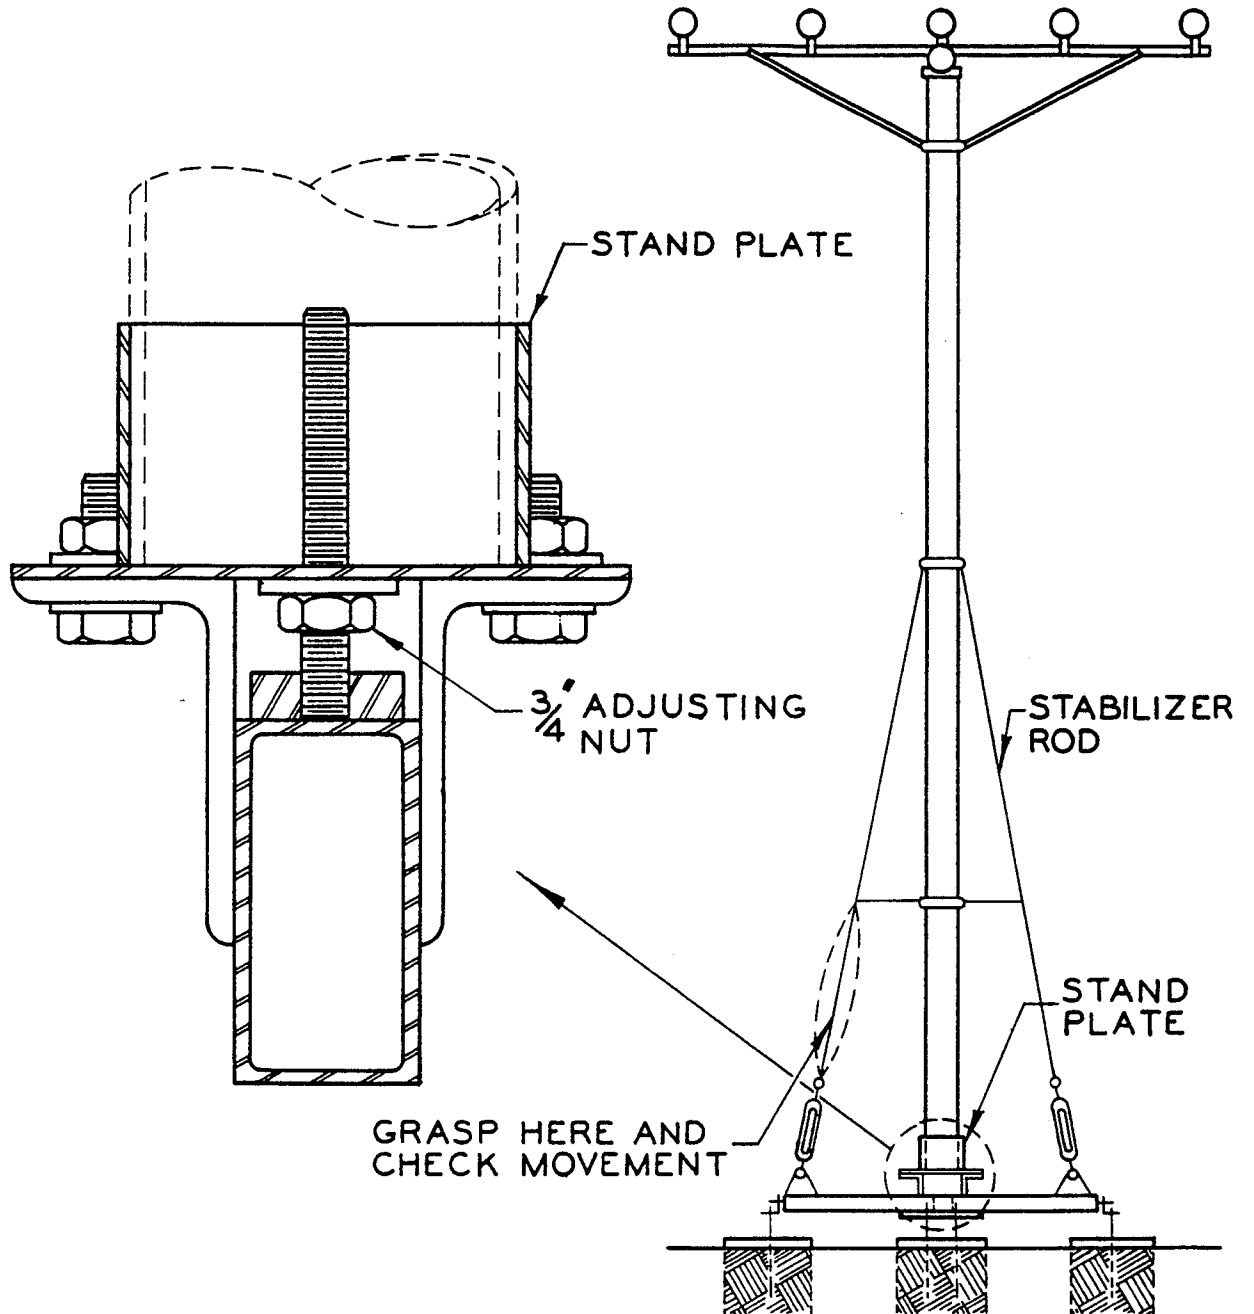

FIG. 6-2
3. Tension adjustments are made with the 3/4" nut located under the stand plate. (See Figure 6-2) Turn the nut a half turn clockwise to increase tension. Use a 1-1/8" open end wrench.